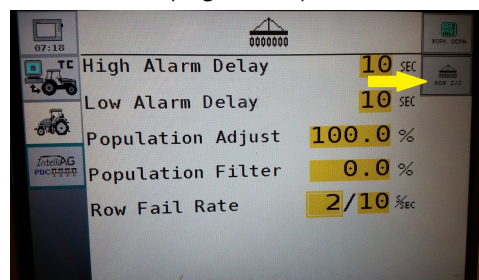

Figure 34
Step 8. Now that Row Monitoring setup is complete, we will now need to select **Row I/O** icon from right hand side of screen. (Figure 34)